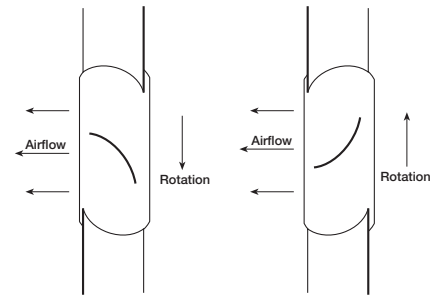

Figure 7 — Rotation Decal
- 12. Rotation direction of the propeller should be checked momentarily by turning the unit on. Rotation should be in the same direction as the rotation decal affixed to the unit or as shown in Figure 7. For 3-phase installations, fan rotation can be reversed by interchanging any two of the three electrical leads. For single phase installations follow the wiring diagram located on the motor or see Figure 13.
2. Start the fan up and shut it off immediately to check rotation of the propeller with directional arrow in the motor compartment. Refer back to Figure 7.